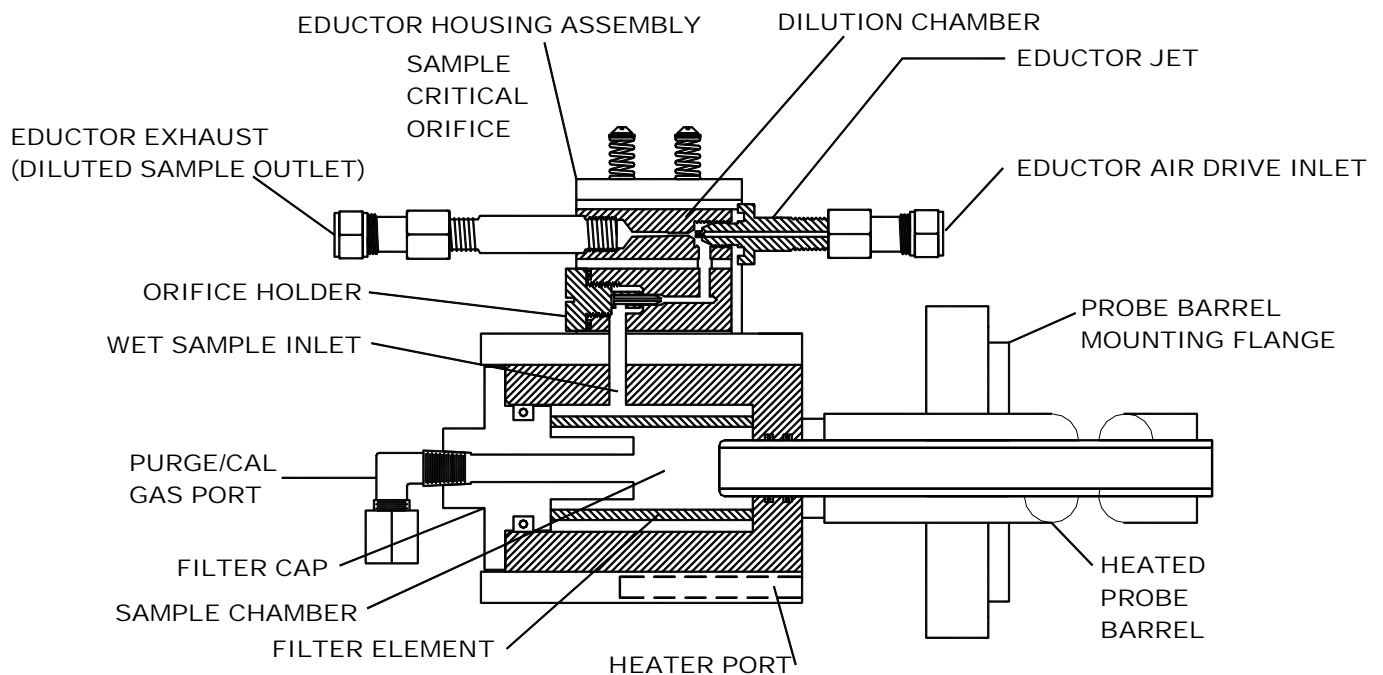

Figure 1.3.2 Dilution Probe Assembly
The dilution probe assembly consists of a heated probe barrel assembly and an eductor probe head as shown in Figure 1.3.2. An eductor assembly and a heated filter body make up the eductor probe head. A heated, high capacity, sub-micron filter is housed in a Teflon[®] filter body that is located within the probe head, and can be easily replaced during preventive maintenance. The sampling probe barrel is typically a section of pipe with an outer diameter of 0.67 inches and an inner diameter of 0.50 inches. Material for the probe barrel is selected for compatibility with the process stream and is typically supplied as 316 stainless steel. The probe is equipped with a standard four (4) foot heated probe barrel. The heated filter body is equipped with a 150 watt, 120 VAC heater and a temperature sensor (RTD). The heated probe is equipped with a 1,000 watt, 120 VAC heater and a temperature sensor (RTD). The probe heater, probe RTD, filter heater and the filter RTD are terminated with Molex[™] connectors.